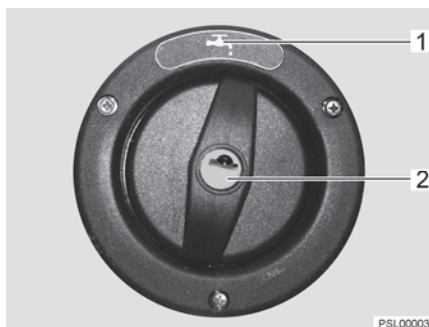

Fig. 109 Cap for the drinking water filler neck
The drinking water filler neck is indicated by the symbol "⚙️" (Fig. 109,1). The cap is opened and closed using the key for the external flap locks.
- Insert key into locking cylinder (Fig. 109,2) and turn a quarter turn in an anticlockwise direction.
- Open drinking water filler neck (Fig. 109).